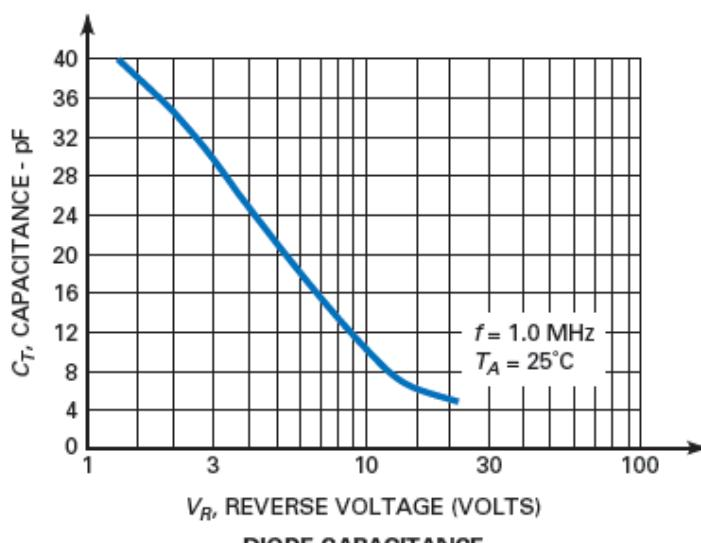

Figure-20 MV209 Partial Data Sheet. (Used with permission from SCILLC dba ON Semiconductor.)
- Figure-20 shows a partial data sheet for an MV209 Varactor diode. It lists a reference capacitance C_t of 29 pF at -3 V.